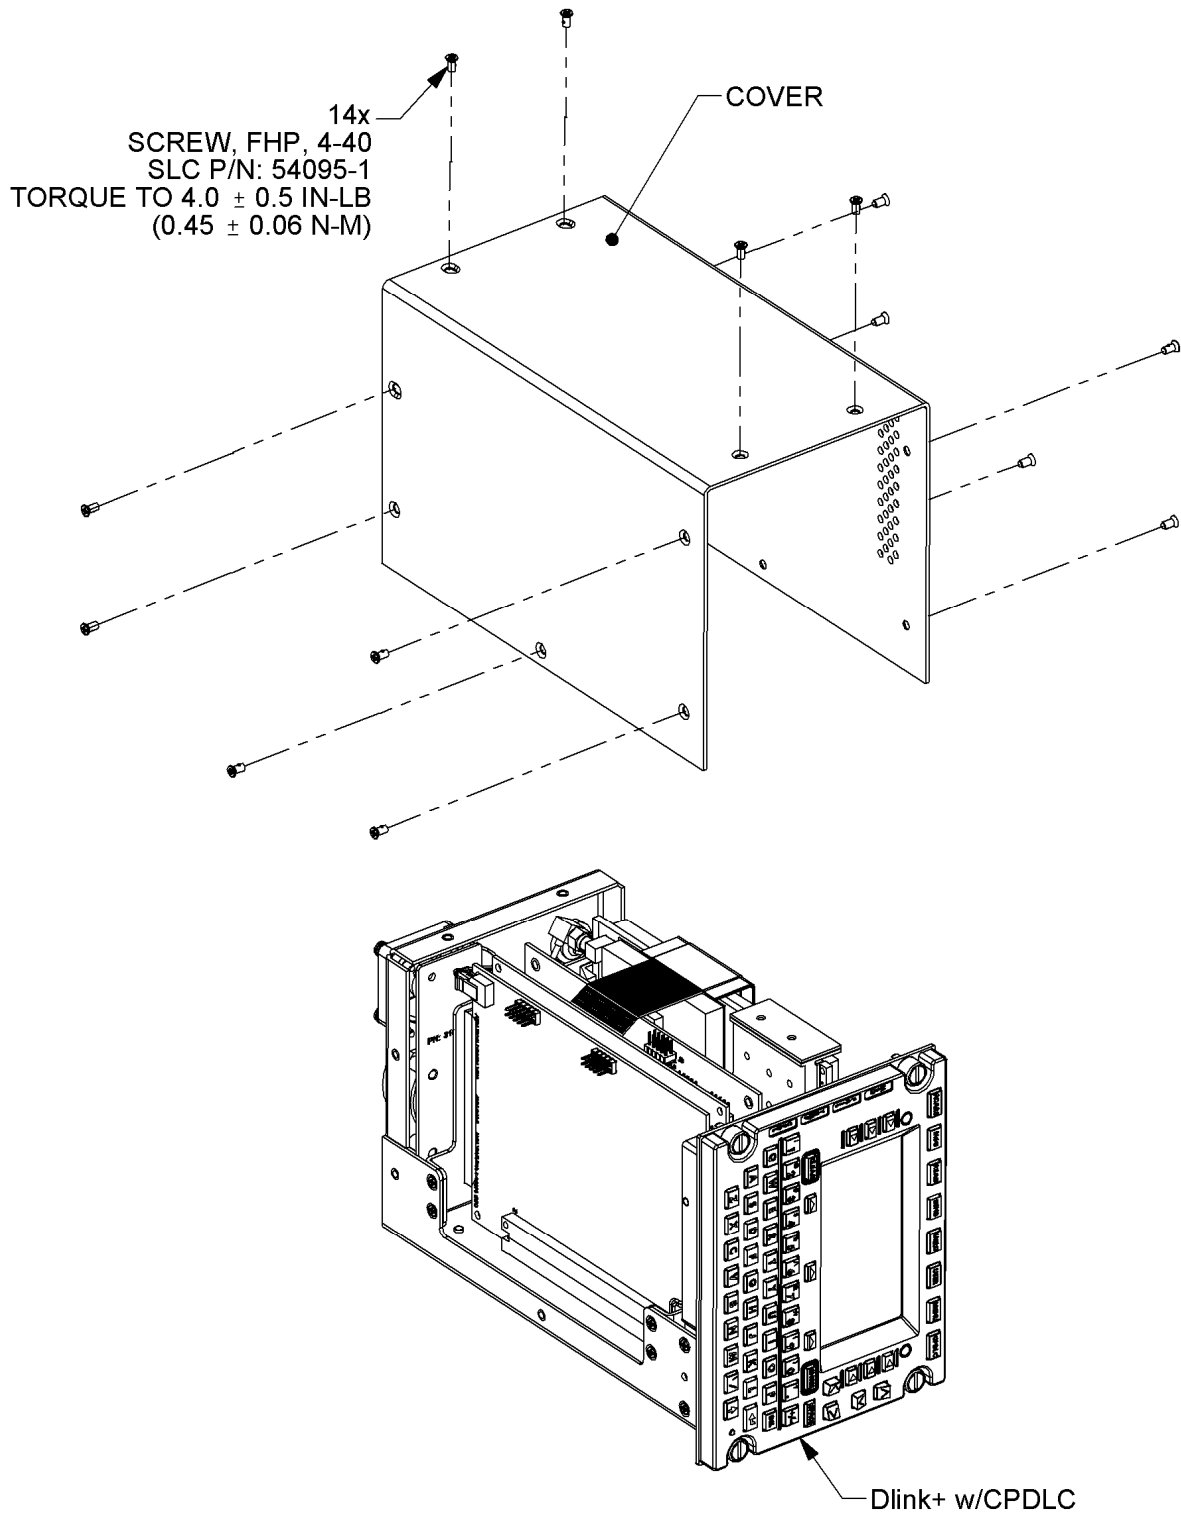

Figure 1. Cover Removal/Attachment
(1) Remove the cover from the Dlink+ w/CPDLC by removing 14 screws. See **Figure 1. Cover Removal/Attachment.**
(2) Attach the 50 Ohm dummy load to the TNC connector on the rear of the unit.
(3) Attach the 11-pin cable to the J1 connector on the rear of the unit.
- (20) Reattach the cover to the unit with 14 screws torqued according to **Figure 1. Cover Removal/Attachment**. It may be necessary to remove the 11-pin cable and dummy load for this operation. If so, reattach them after the cover is secured.
- (21) Return to section **4.A. Ethernet Programming (All Units)**.